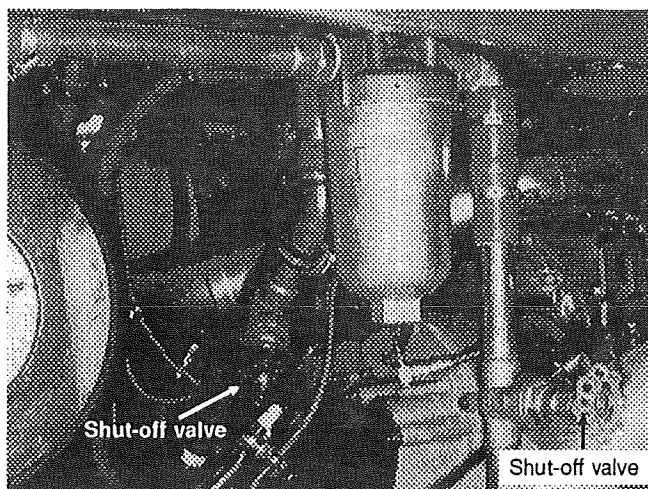

FIG. 7
3. Close shut-off valve located behind the alternator. This valve is accessible by the small engine access door on the R.H. side of vehicle (see fig. 7).
4. Close shut-off valve located near the coolant filter of the rear heating unit (see fig. 7).